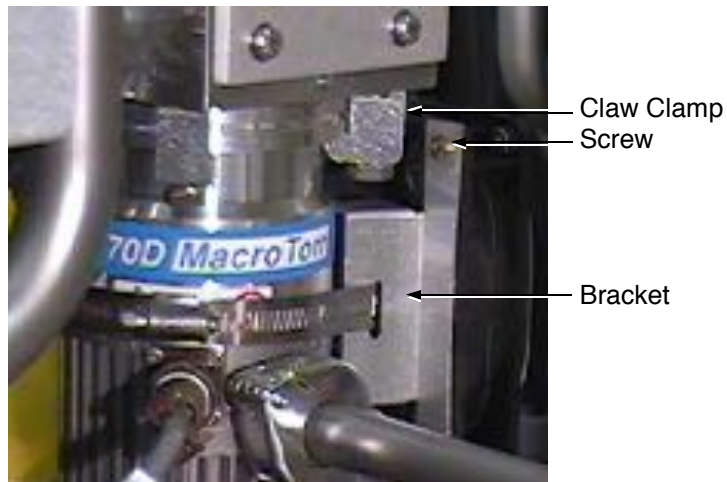

Figure B-9 Radiator Clamp holding Fan to Turbo
5. Loosen the radiator clamp screw and remove the fan from the turbo pump (Figure B-9).
4. While supporting the pump with one hand, place the four ISO single claw clamps onto the corners of the SVBA (Figure B-9 on page B-11), insert the bolts, and then tighten them just enough to hold the pump.